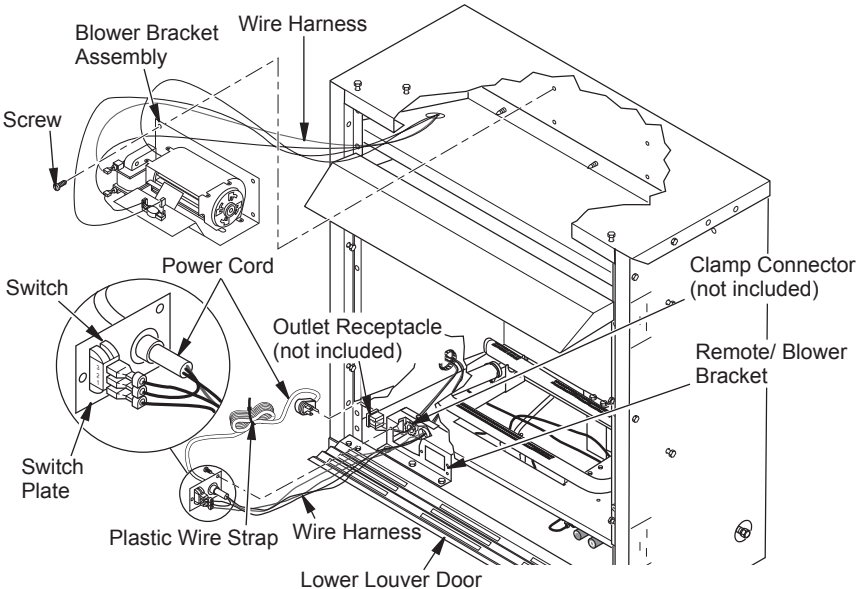
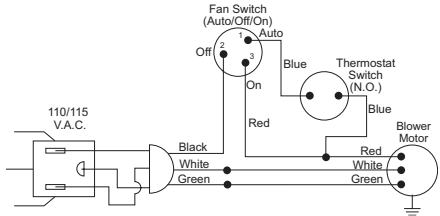

Figure 17 - Installing Blower Bracket Assembly
Figure 18 - Wiring Diagram For Blower Accessory Built-In Installation
1. Install snap bushing from blower kit into one hole on rear of remote/blower bracket (see Figure 17). The other hole is for a strain relief clamp (not supplied) to secure incoming electrical supply.
3. A licensed electrician must follow the wiring diagram to connect incoming electrical supply to fan kit wiring harness (see Figure 18).
4. Plug power cord to outlet receptacle (not provided) as shown in Figure 18. Wind extra cable of power cord and tie up with plastic wire strap (see Figure 17). Set cable bundle between the remote/blower bracket and outer casing, away from the burner.